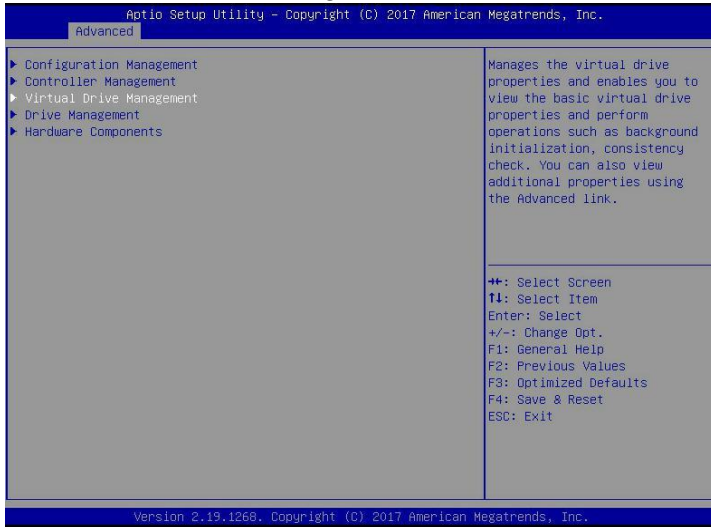

Figure 6-91
a) As shown in Figure 6-91, select Virtual Drive Management on the RAID card configuration interface, and press Enter.
❖ Figure 6-91 RAID card configuration interface